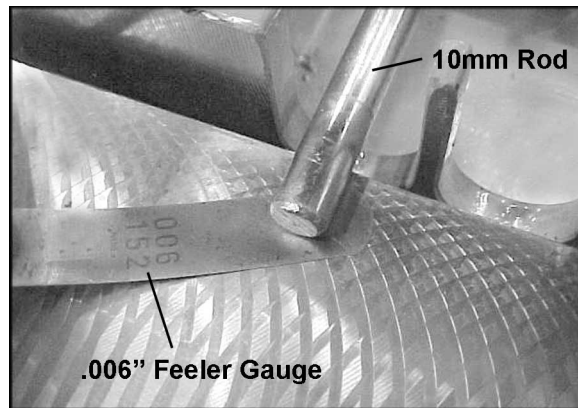

Figure 29
1. With the boring head still in horizontal position, and the the 10mm rods still in place on the spindles, lower the spindles with the crank handle until a .006” feeler gauge just rubs between the rod and the table surface, as shown in Figure 29.